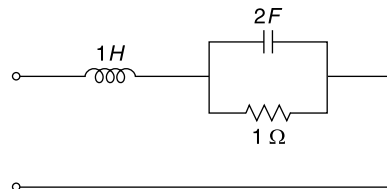

Fig. 5.55 Circuit diagram for Ex. 5.59
5.59 For the circuit shown in Fig. 5.55 find the frequency at which the circuit will be at resonance. If the capacitor and inductor are interchanged what would be the value of new resonant frequency.